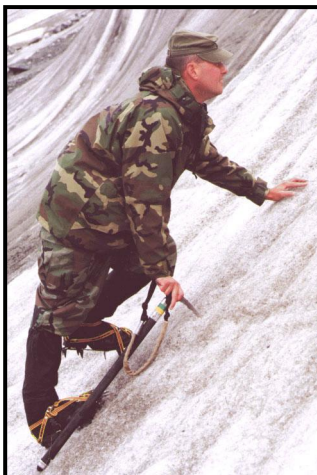

Figure 10-5. Ice ax in the push-hold position.
(4) ***Push-Hold Position.*** Another variation on steep slopes is the push-hold position (Figure 10-5). The hand is placed on the shaft of the ax just below the head with the pick forward. The pick is driven into the slope at shoulder height. The hand is then placed on the top of the ax head for use as a handhold.